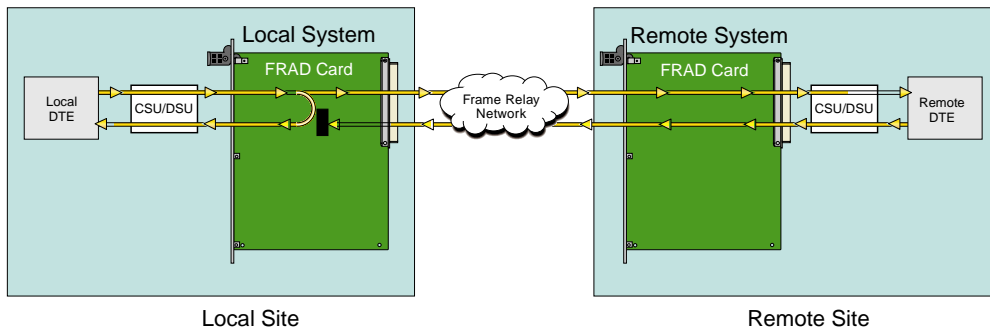
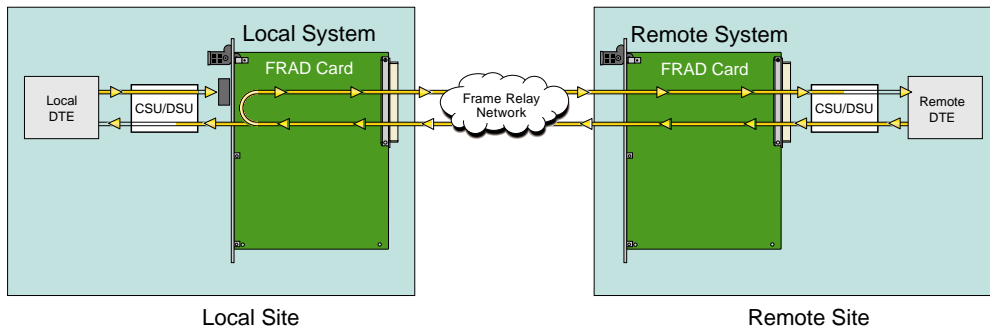

Figure 5-3.DTE Loopback
Figure 5-4.Network Loopback
The Loopback (LB) setting allows you to activate a number of different loopback options for RS232. The **off** option is the default setting. The **dte** (DTE) option (shown in Figure 5-3) loops data from the local DTE back to itself through the local FRAD card. The **net** (network) option is shown in Figure 5-4; it loops data back toward the distant DTE through the local FRAD card.